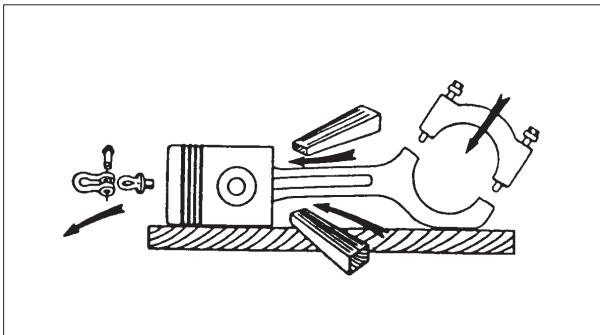

Fig 1. Landing of Piston and Connecting Rod.
1) Land the piston and connecting rod carefully on wooden supports to prevent damage of piston and scraper ring, *see fig 1.*
2) The bearing cap should be mounted with the screws tightened only by hand, in order to protect the serrated joint faces during handling of the assembly, *see fig 1.*
3) Remove the shackle and eye screw from the piston crown, *see fig 1.*